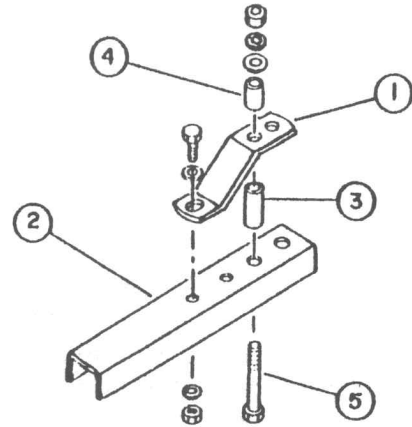

FIGURE 7
g) For Tractor A: Install the rear hitch (fig. 7, item 1) loosely on top of subframe channel (item 2) in the forward most set of holes using 7/16 X 1 1/4" bolt, flatwasher on top of the slot, and the lockwasher and nut under the channel. Do not tighten yet.
h) Attach the other end of the hitch using a 5/8 X 6" bolt (fig. 7, item 5) through the channel, then through the tube 2 1/4" spacer (item 3), then through the hitch (item 1). On top of this, install a 2" long tube spacer (item 4) and then secure with a flatwasher, lockwasher and nut. Do not tighten yet.
- i) For Tractor B: (In the most rear set of holes) Install the rear hitch (fig. 7, item 1) as follows: Use exactly the same instruction as for Tractor A except that a 5/8 X 4" bolt (item 5) is used with the 2 1/4" spacer (item 3) between the hitch and channel, but not the 2" spacer on top of the hitch. Secure with flatwasher, lockwasher and nut. Do not tighten yet.